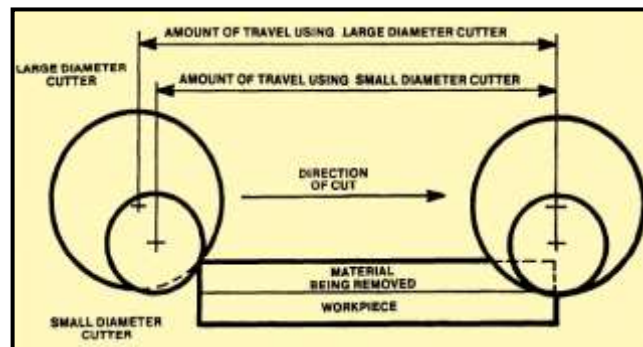

Figure 8-9. Effect of milling cutting diameter on workpiece travel.
**Size of Milling Cutters:** In selecting a milling cutter for a particular job, choose one large enough to span the entire work surface so the job can be done with a single pass. If this cannot be done, remember that a small diameter cutter will pass over a surface in a shorter time than a large diameter cutter which is fed at the same speed. (Figure 8-9).